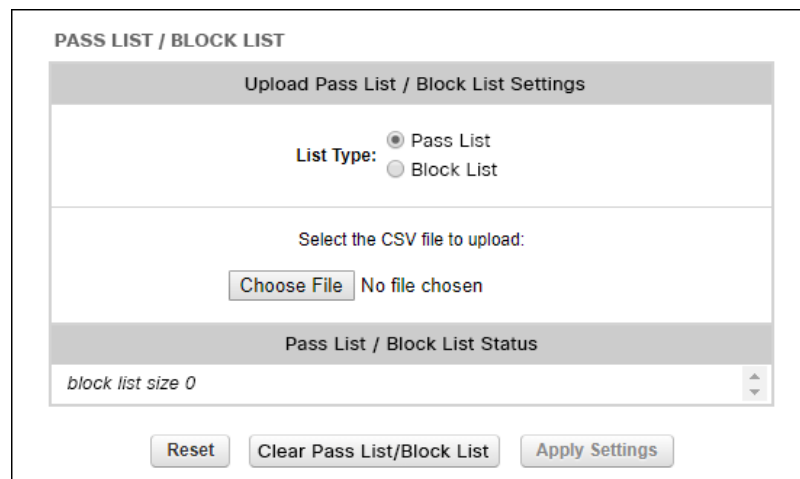

Figure 39. Configurator (Pass list / Block list dialog)
- The **Pass list / Block list** dialog will be shown (Figure 39 (page 100)).